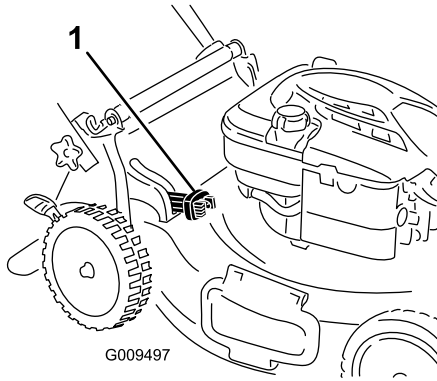

Figure 18
- For bagging the grass and leaf clippings, press the button on the bag-on-demand lever, and move the lever forward until the button on the lever pops up (Figure 18).